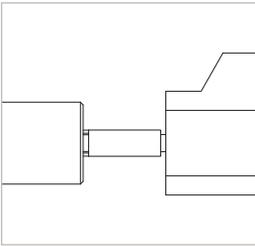

Figure 3
- ▶ Grip the test piece and plug it up to the stop straight onto the connector (*Figure 3*). Doing so will prevent any damage to the front seal caused by any sharp edges on the test piece and ensure a correct connection.